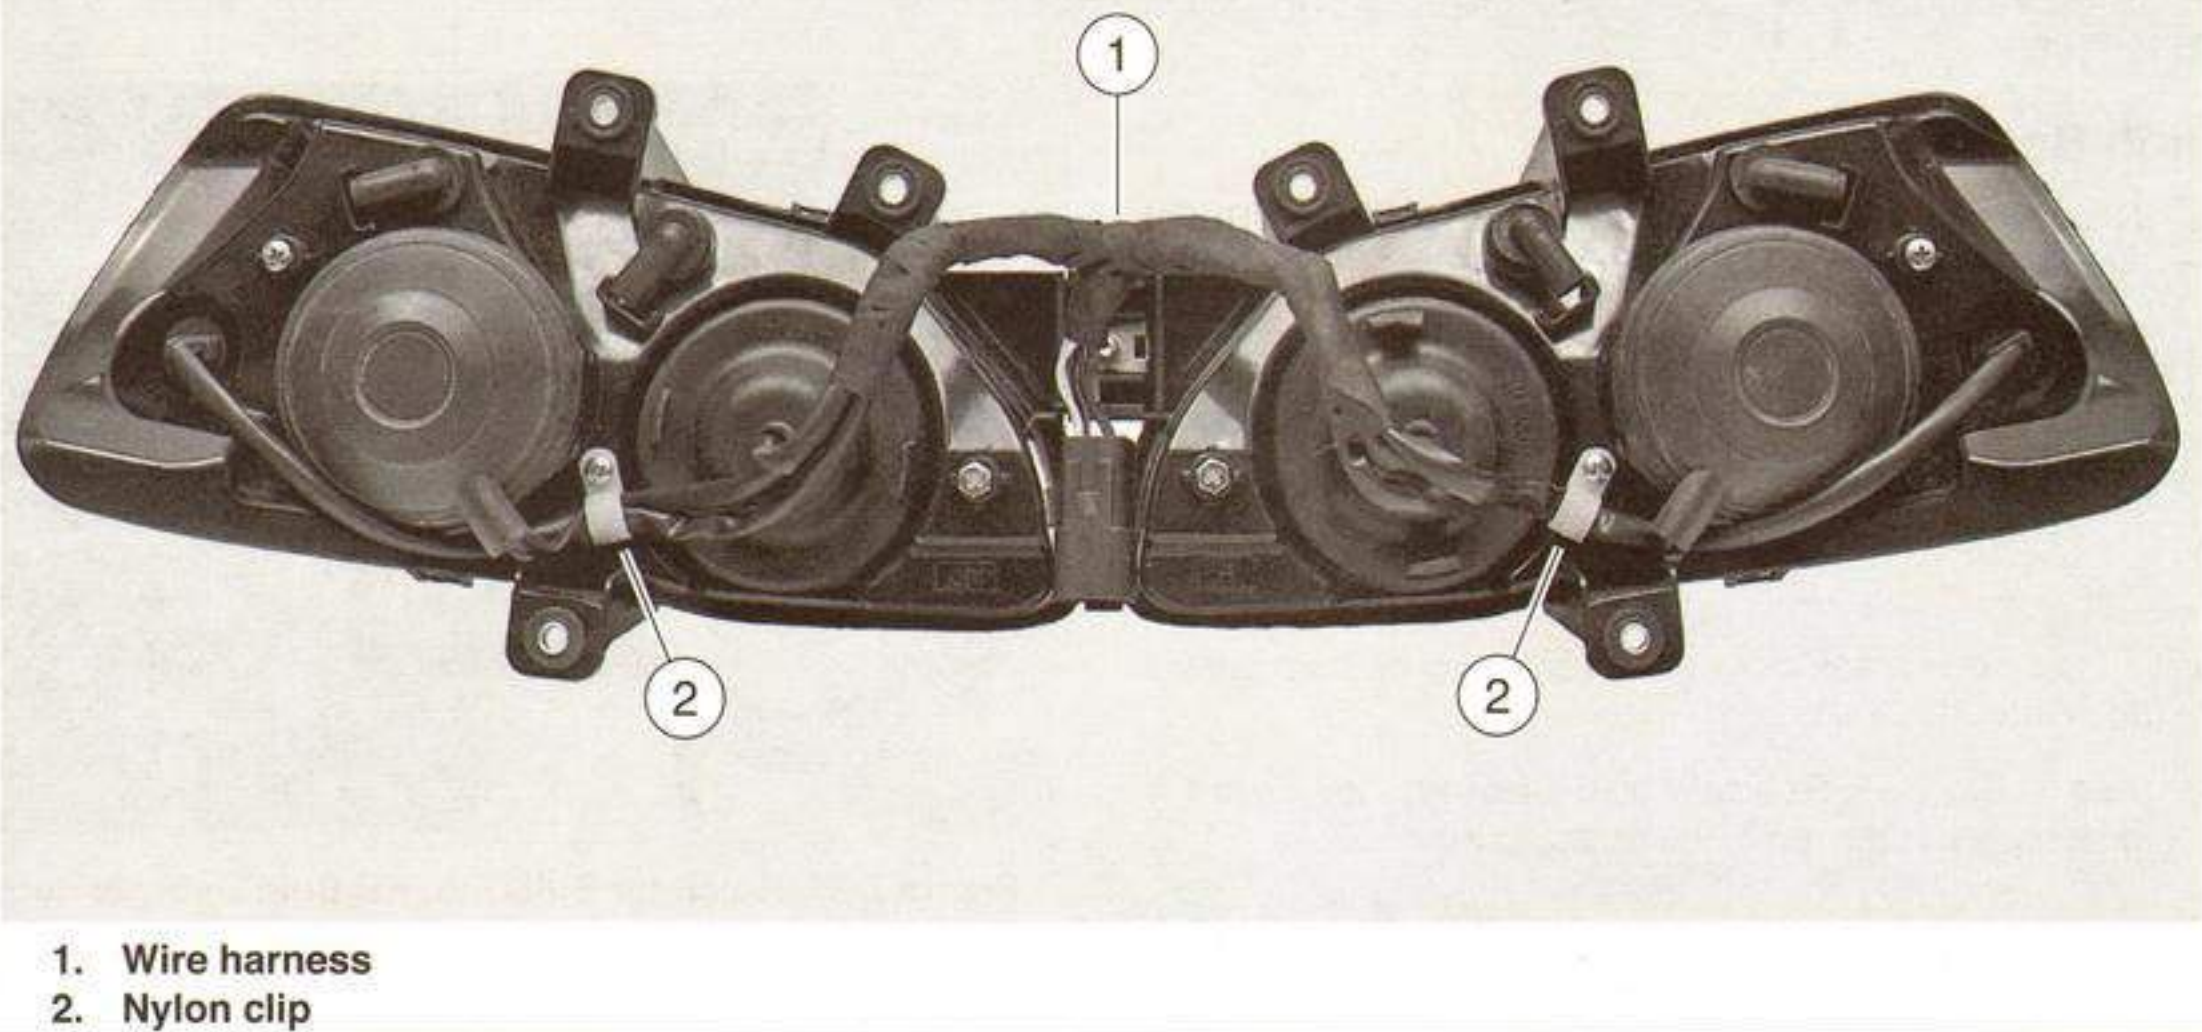

Figure 7-53. Headlamp Module
4. See Figure 7-53. Remove the wire harness nylon clips (2) and the wire harness (1).